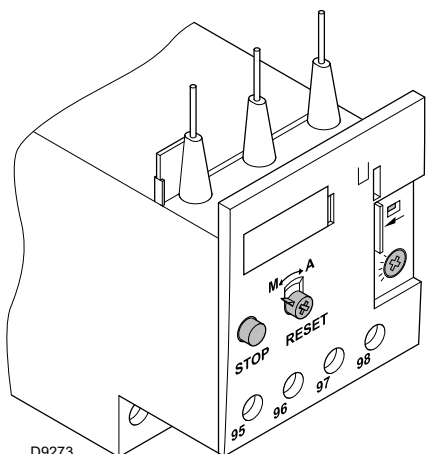

Fig. 35
The electro-mechanical overload relay (Fig. 35) is used to avoid damage to the motor owing to a strong increase in absorption or the lack of a phase.
- To reset, in the case of an intervention of the overload relay, press the button "RESET" (Fig. 35).
- The button "STOP" (Fig. 35) opens the NC (95-96) contact and stops the motor.